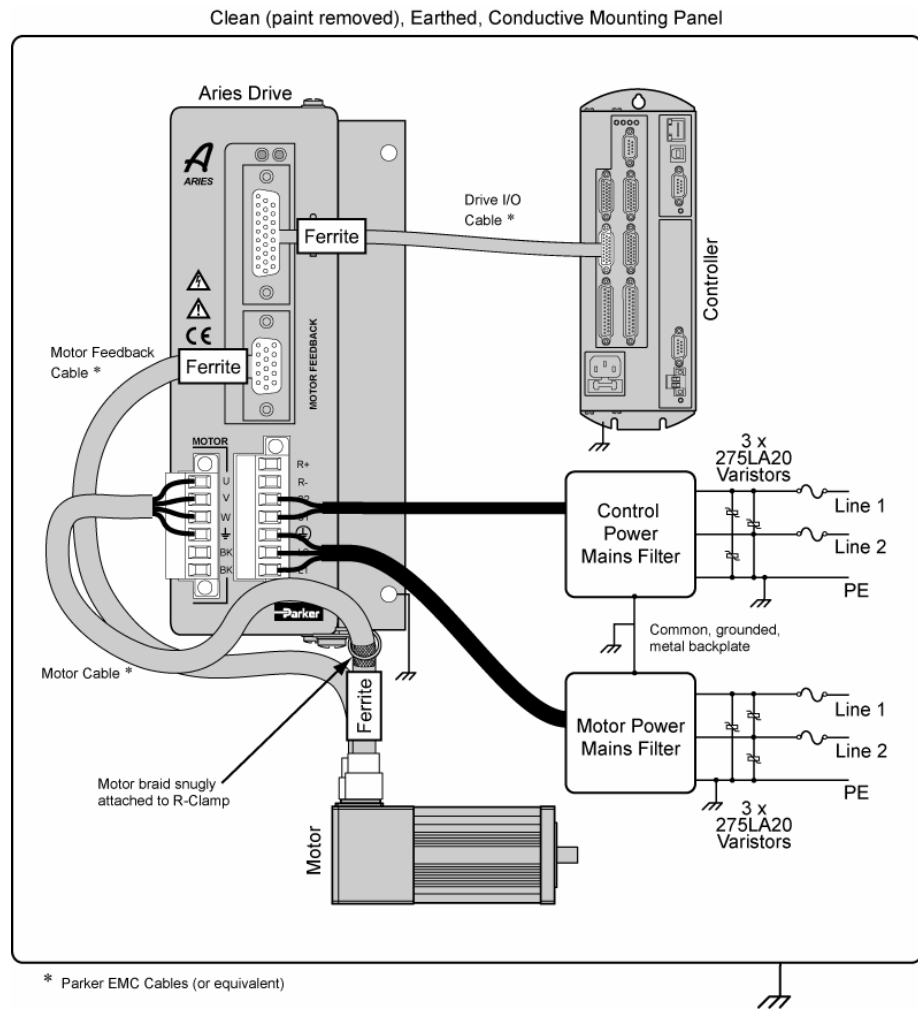
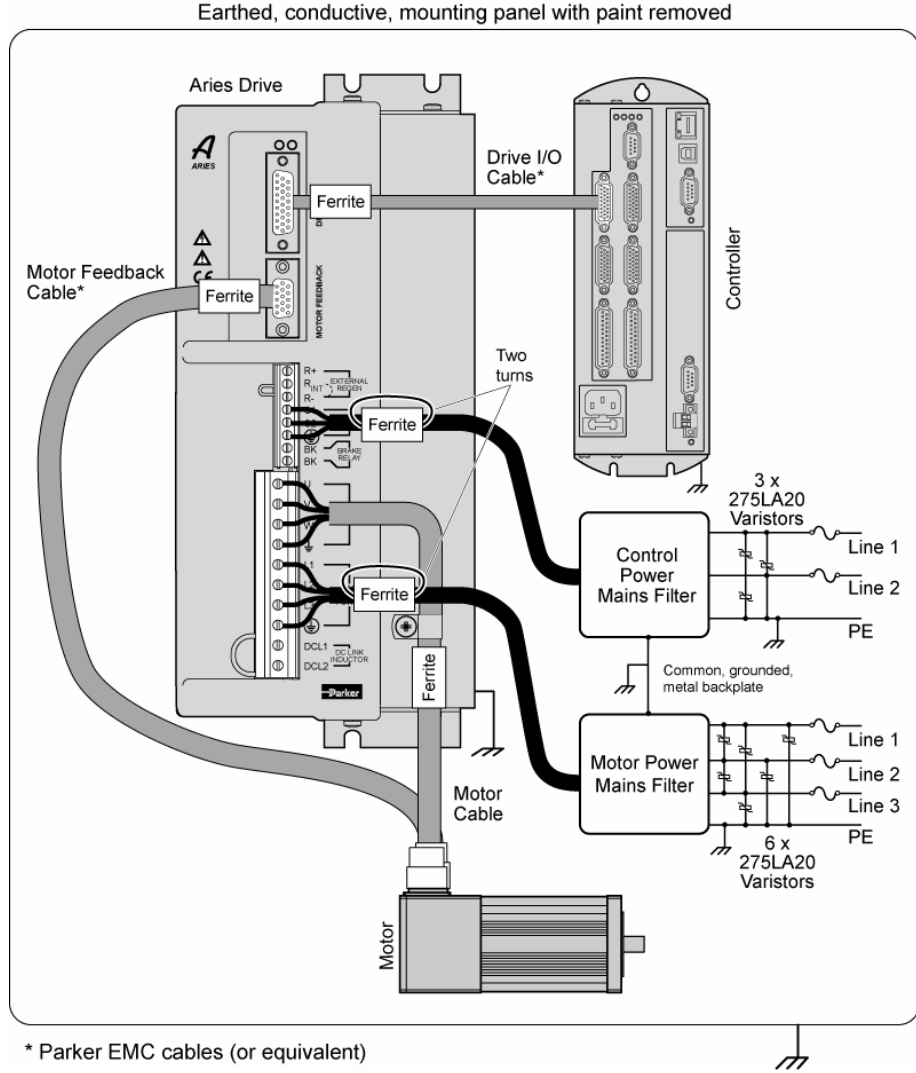

Figure 53 Typical LVD/EMC Installation, AR-02xx to AR-13xx
Figure 54 Typical LVD/EMC Installation, AR-20xE & AR-30xE
Control Power – You must install varistors or other voltage surge limiting devices in order to meet the requirements of EN61000-4-5. Level 3 Voltage Surge (1000V line-to-line, 2000V line-to-earth) protection can be achieved by placing a Littelfuse V275LA20C, or an equivalent varistors from line-to-line and from line-to-earth before the mains filter as shown in Figure 54 Typical LVD/EMC Installation, AR-20xE & AR-30xE on page 198.
Mains Motor Power – The three-phase AC power Aries drives (models AR-20xE and AR-30xE) are designed to meet Level 3 Voltage Surge (1000V line-to-line, 2000V line-to-earth) without the need for external voltage surge limiting devices. If a higher level of mains surge immunity is required, external voltage surge limiting devices, such as varistors, can be installed before the mains filter. Figure 54 Typical LVD/EMC Installation, AR-20xE & AR-30xE on page 198 illustrates this installation.
- Route cables as shown in Figure 53 Typical LVD/EMC Installation, AR-02xx to AR-13xx on page 197 and Figure 54 Typical LVD/EMC Installation, AR-20xE & AR-30xE on page 198.